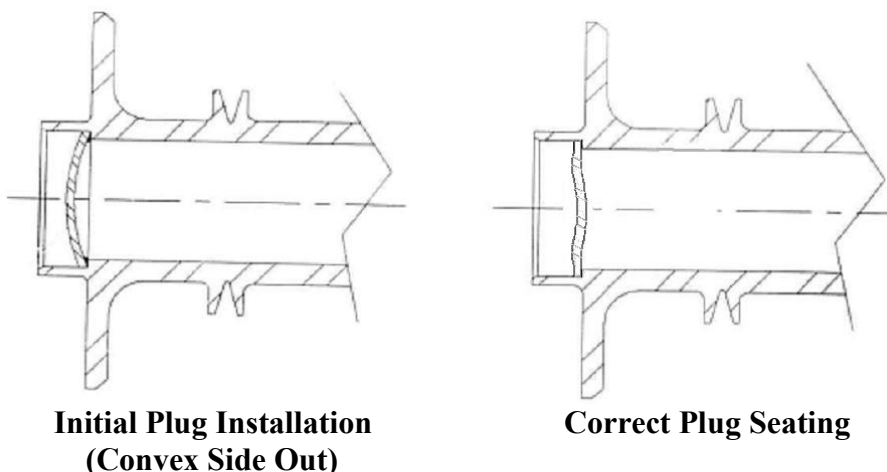

Figure 40
- (2) Install the new expansion plug with the convex side out (Figure 40).
- (3) Install the plug where it is seated firmly in the bottom of the crankshaft bore.
- (4) Remove excess gasket material with a clean cloth soaked with acetone.